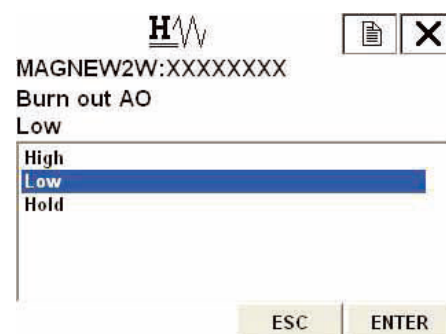

Figure 7-41
Figure 7-41 will then be displayed.
2. Once the display as shown in Figure 7-41 appears, move the arrow key up or down to select HIGH, LOW, or HOLD. After making a selection, press F4 (ENTER). If F3 (ESC) is pressed here, the selection will be canceled and the display will return to the Analog output menu.